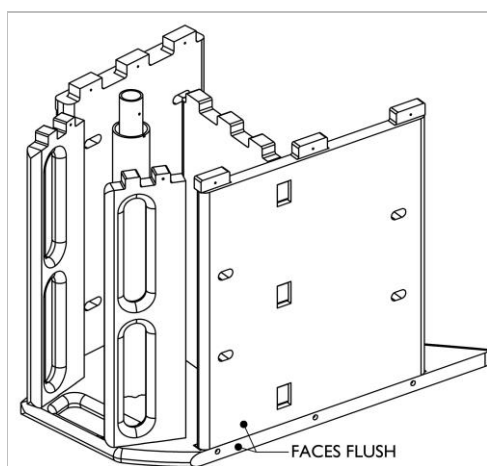

Figure 12
- 2.7) Insert both pieces into the left frame as shown in Figure 12.